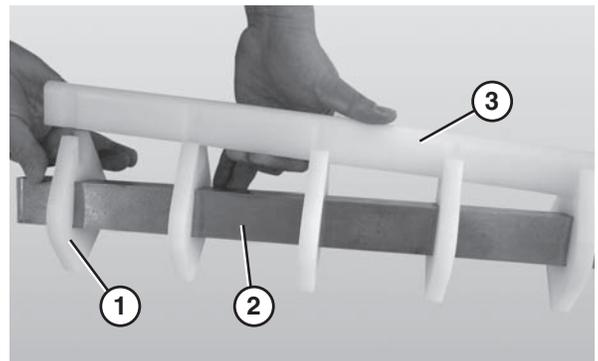

Figure 60
3. Remove the nose bar wear strip (**Figure 60, item 3**).
4. Slide the nose bar pucks (**Figure 60, item 1**) off the nose bar shaft (**Figure 60, item 2**).